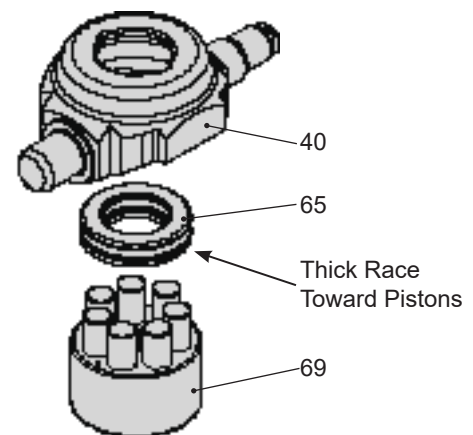

Figure 28, Hydraulic Pump Components
1. Inspect the swashplate (40) and thrust bearing assembly (65) for wear or damage. Replace if necessary.
2. Inspect pump block per detail (figure 28).